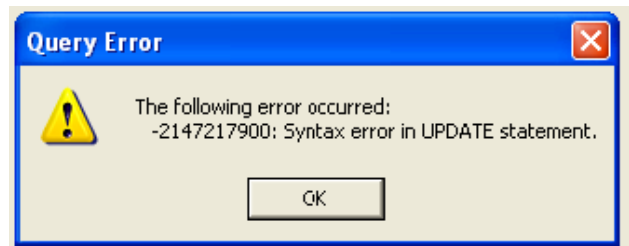

Figure 26
- A “Query Error” message appears if the operation is unsuccessful (see example in Figure 26).